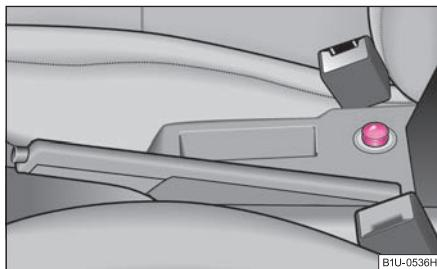

Fig. 86 Centre console: Cigarette lighter
- Press in the button of the cigarette lighter \Rightarrow fig. 86.